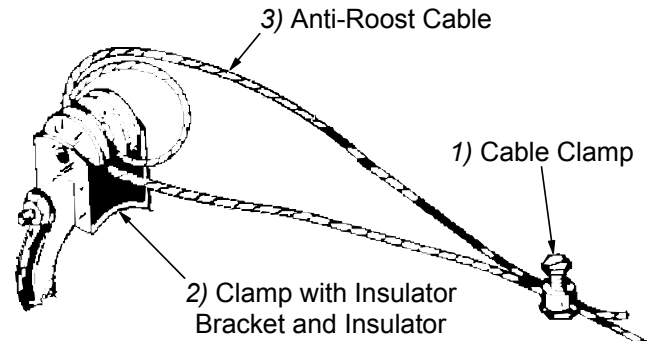

Figure 49. Anti-Roost Cable at the Hopper
2. Start at the hopper end of the line and form a loop around the anti-roost bracket. For best results, make a double loop around the anti-roost insulator in the center groove of the insulator and fasten with a 3/32" cable clamp as shown in Figure 49.